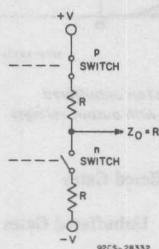

Fig. 3 — Constant output impedance of a buffered gate.
—Buffered—Fig. 3 depicts the buffered output stage and shows the MOS transistor as switched on with a channel resistance R ; R is the same value for the n-switch closed or the p-switch closed.
as buffered (B) types or unbuffered (UB) types by virtue of the squared or rounded transfer characteristics of Figs. 3 and 4, respectively. Even though both types have a single NMOS and single PMOS output transistor, the rounded transfer characteristic of the unbuffered inverters makes them UB types by virtue of:
Output Impedance—Refer to Figs. 3 and 4 and accompanying descriptions of the constant output impedance of buffered gates and the variable output impedance of unbuffered gates. Note that **both** buffered and unbuffered RCA 2-, 3- and 4-input gates are designed to meet the same maximum output impedance; output current ratings (I_{OL} and I_{OH}) have the same minimum limit on RCA data sheets.